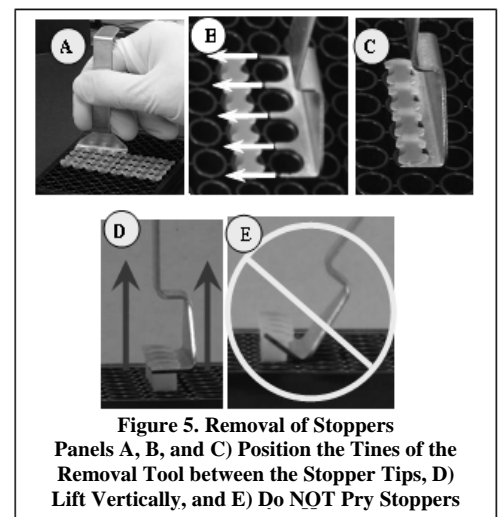

Figure 5. Removal of Stoppers
11. Using the Oris™ Stopper Removal Tool, remove all other stoppers (see Figure 5).